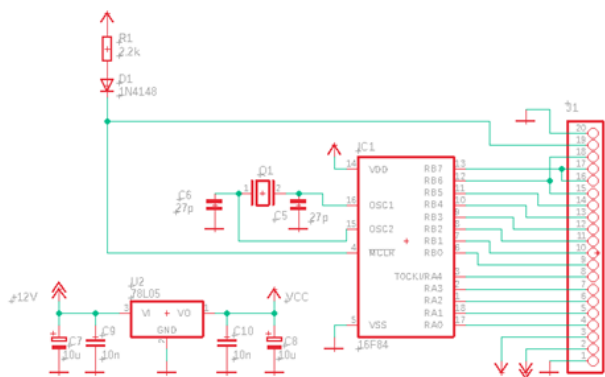

Figure 6 - Eagle Schematic
2. Use your PCB design tool to generate a surface mount board layout from your circuit. See Figure 6.
See Figures 6 and 7 for an example of a schematic entered into Eagle, and the PCB board design generated for the circuit, also Eagle-generated. An excellent book on getting started with Eagle is available on Amazon [11].